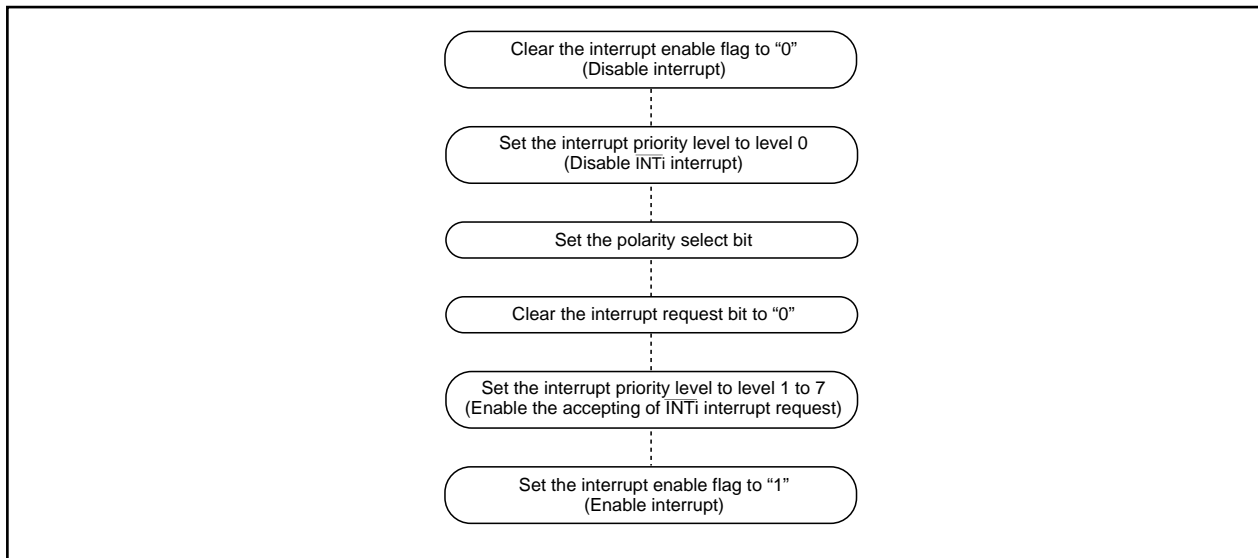

Figure 2.7.13 Switching condition of INT interrupt request
- When the polarity of the  $\overline{\text{INT0}}$  to  $\overline{\text{INT5}}$  pins is changed, the interrupt request bit is sometimes set to "1". After changing the polarity, set the interrupt request bit to "0". Figure 2.7.13 shows the procedure for changing the  $\overline{\text{INT}}$  interrupt generate factor.